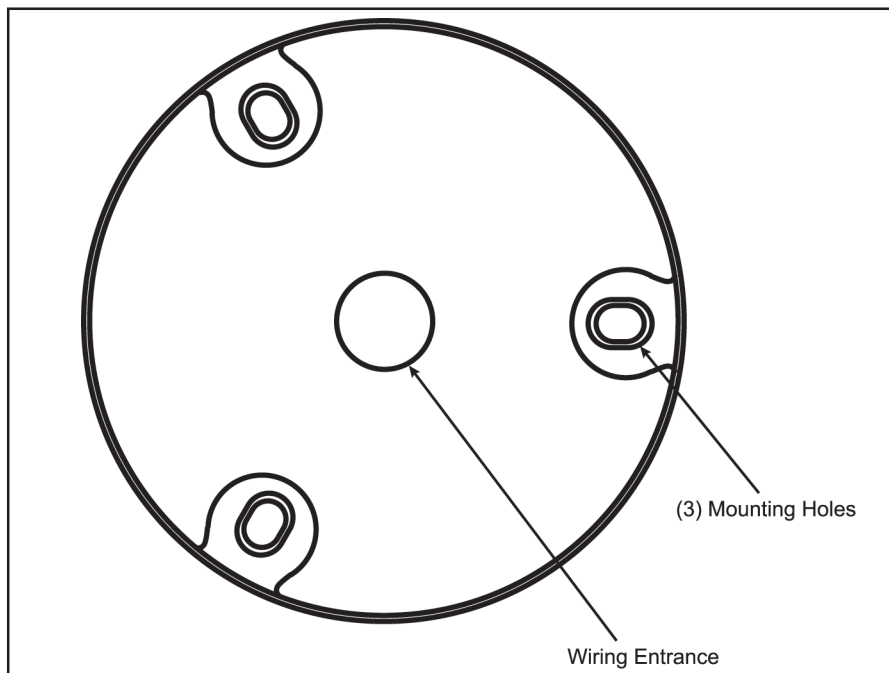

Figure 1. Surface Mount Template
- Using Figure 1 as a guide, mark the three mounting holes and the center wiring clearance hole on the mounting surface.